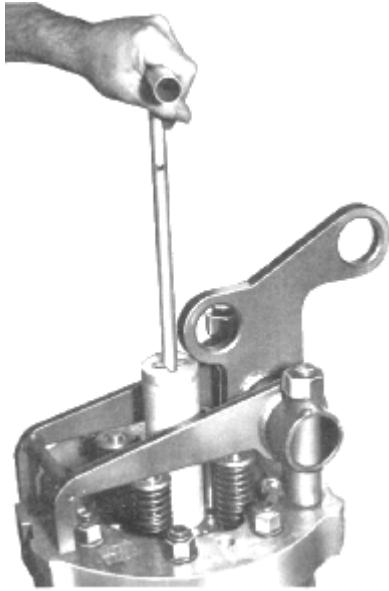

Fig. 5-5 - Piston Holding Tool
20. Place a piston holding tool, Fig. 5-5, in the injector well on the opposite cylinder, opposite bank of the engine and thread the rod into the piston pulling eyebolt hole in the crown of the piston.
44. Lift the piston and blade rod assembly so that the piston holding tool, Fig. 5-5, can be positioned to hold the piston and rod at the top of the liner. The upper bearing shell should be removed as the piston and blade rod assembly is being raised.
25. Screw the piston holding tool, Fig. 5-5, into the threaded hole in the crown of the piston and fork rod assembly.